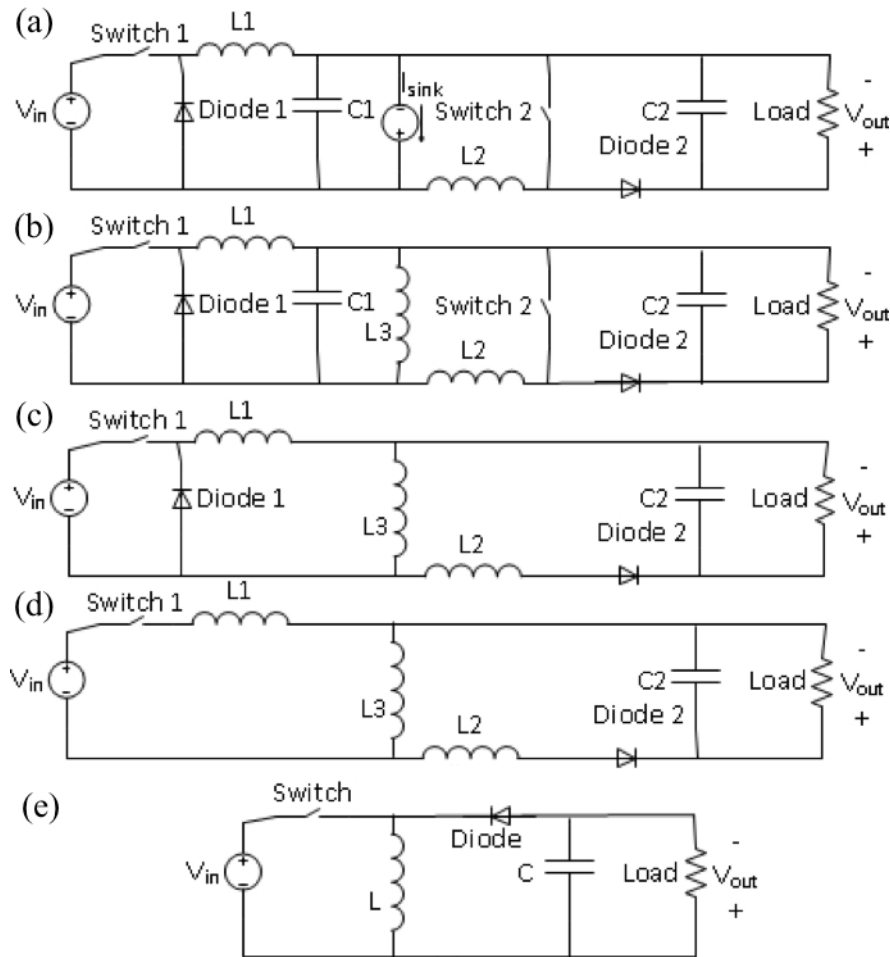

Figure 3. Flyback converter circuit
5. Build the circuit shown in Fig. 3 by using the lower MOSFET and flyback magnetic board.
7. Make sure the switch array for MOSFET selection (lower MOSGET), PWM selection, and other settings are correct to achieve a functional Fig. 3.